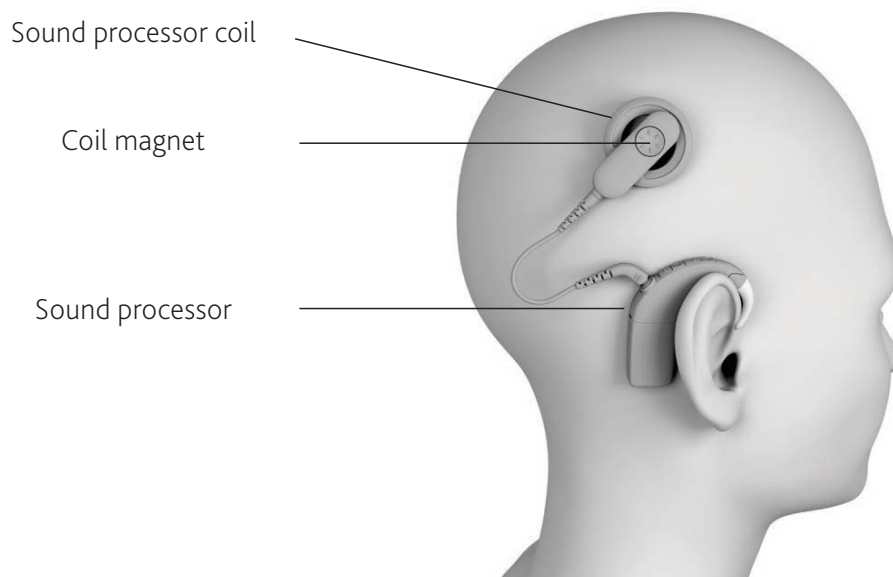

Figure 2: Location of the sound processor, sound processor coil and coil magnet
1. Prior to entering the MRI room and before removing the sound processor, mark on the patient's head an outline of the sound processor coil. See *Figure 2* below to identify the sound processor coil. Once the coil has been removed from the head, mark on the patient's head the centre position of the coil magnet. If necessary, shave the patient's head at the coil magnet location so this marking is more visible and easier to locate during the splinting process. This marking is essential to ensure that the splint is placed in the correct location.